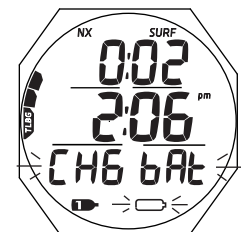

Fig. 3 - SURF MAIN (low battery alarm during dive)
- Upon entry into Surface Mode, the Battery icon (shell only with no inner bar) and the graphics CHG bAt flash for 5 seconds (Fig. 3) then operation reverts to Watch Main Time.